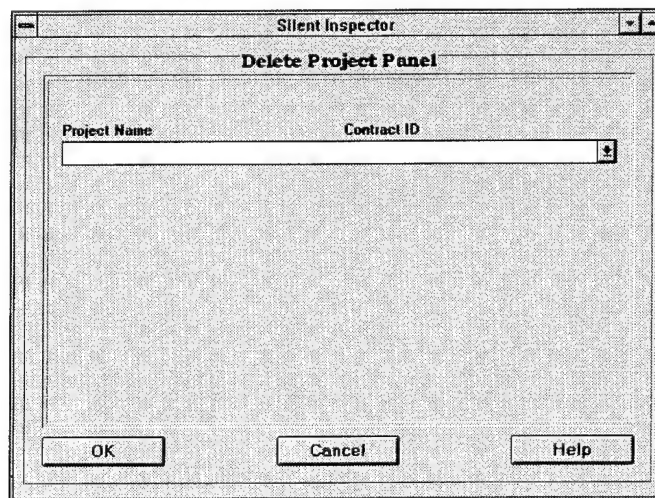

Figure 12. **Delete Project Panel** screen
- Click on **Delete** under the **Project** menu, and the **Delete Project Panel** screen (Figure 12) will appear.